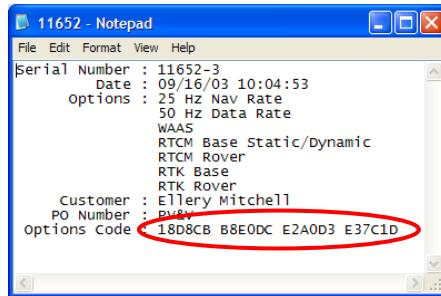

Figure 117: Software Options Code
3. Copy the options code at the bottom of the file (see example in Figure 117).